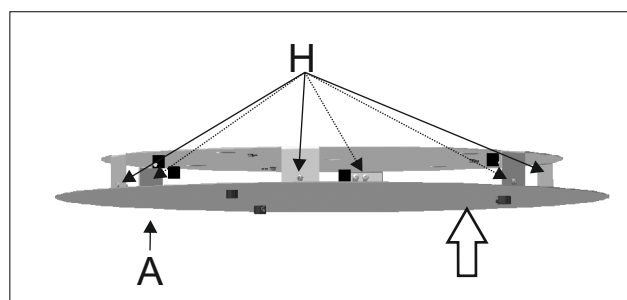

Figure 2
2 - Place the canopy (A) and fasten the side screws (H). Figure 2.